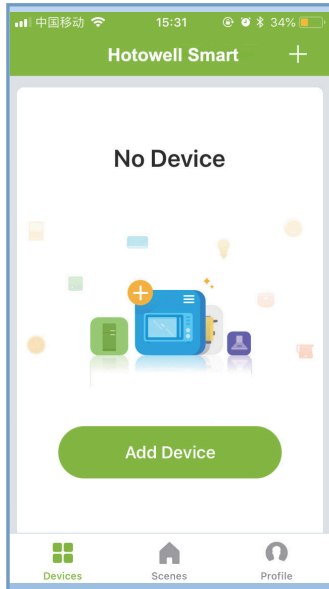

fig 3.1
- Press the “+” on the upper right corner of the page (see Fig 3.1) or “Add Device” to add “**Thermostat**”.